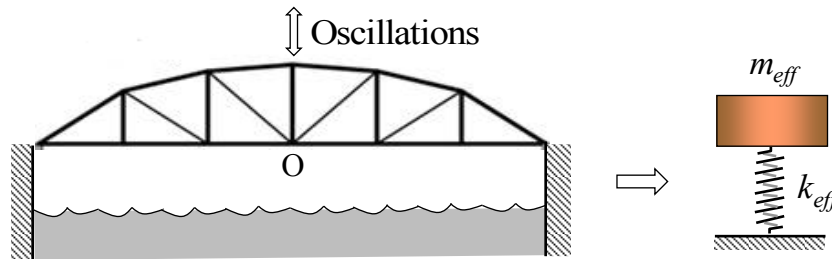

Figure 5(a)
- 3(a) It is intended to analyse the vertical oscillations of a small bridge by modelling it as a spring-mass system as shown in Figure 5(a) where k_{eff} is the effective stiffness of the bridge and m_{eff} is the corresponding effective mass. When the bridge is deflected down by imposing a certain vertical displacement at O (the mid-section of the beam) and allowed to oscillate freely, the bridge executes natural oscillations in the vertical direction as indicated. The natural period of vertical oscillations is found to be 0.4 s. When a mass 8000 kg is placed at the mid-section of the bridge at O, the natural period of the oscillation increases to 0.42 s. Determine k_{eff} and m_{eff} of the spring-mass system. Ignore damping effects.